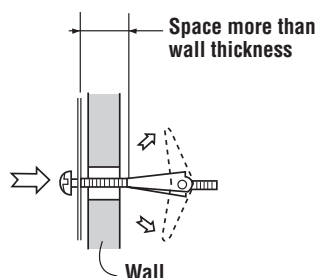

Figure 19
3. Position the Mounting Plate with the Toggle Bolts attached at the wall location and insert Toggle Nuts and Bolts through the holes in the wall with the Toggle Nuts closed. Figure 19. Use Wood Screws ① to attach the Mounting Plate to studs.